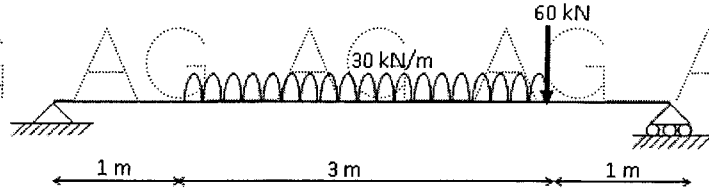

Figure 5
8. Determine the maximum deflection and the slopes at the supports of a beam supported and loaded as shown in Figure 5. [10]